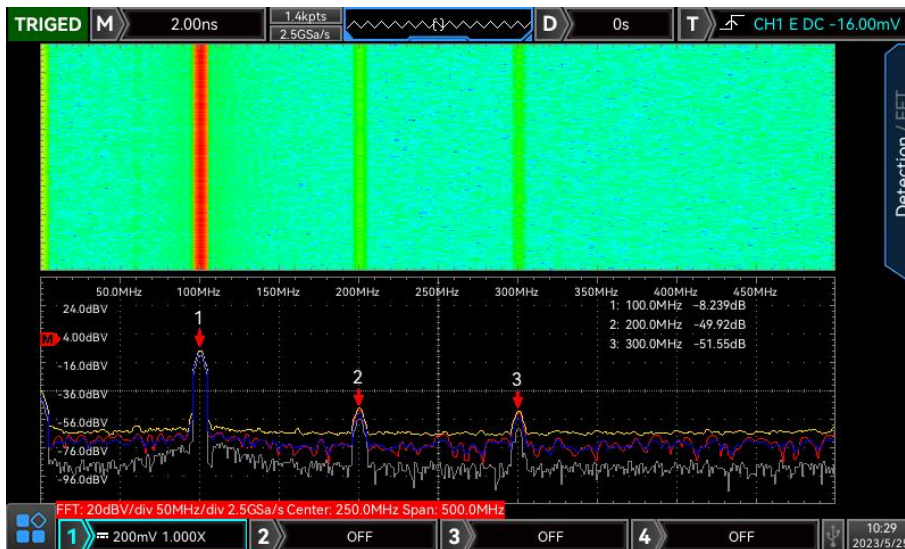

Figure 15-3
- e. Waterfall curve 2: Spectrum and waterfall curve split to two window to display. Waterfall curve shows the time changing of dB value in spectrum. It has "record" function. Waterfall curve can only select when enhance FFT is opened. The maximum record 200 spectrum which corresponds to waterfall curve. As shown in Figure 15-3.